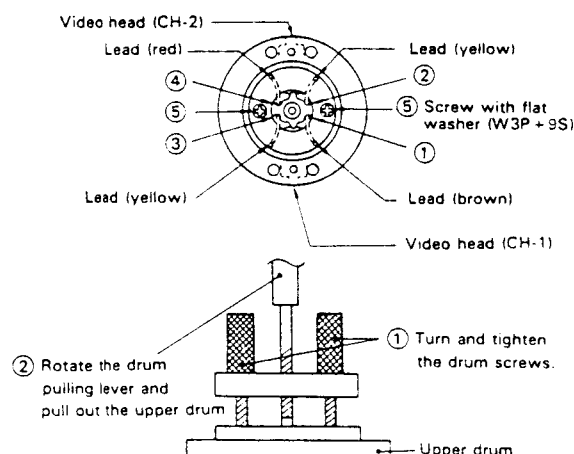

Figure 1-25.
- **Replacement (See Fig. 1-25)**
1. Unsolder the leads ① to ④ from the video head and remove them.
2. Remove the two screws ⑤ (brass screws with washers (W3P + 9S) using a phillips screwdriver.
3. Withdraw the upper drum by pulling it up with the upper drum replacement jig. (Refer to Fig. 1-25.)
1. Set the new drum for replacement, as shown in Fig. 1-25, and position the leads properly.